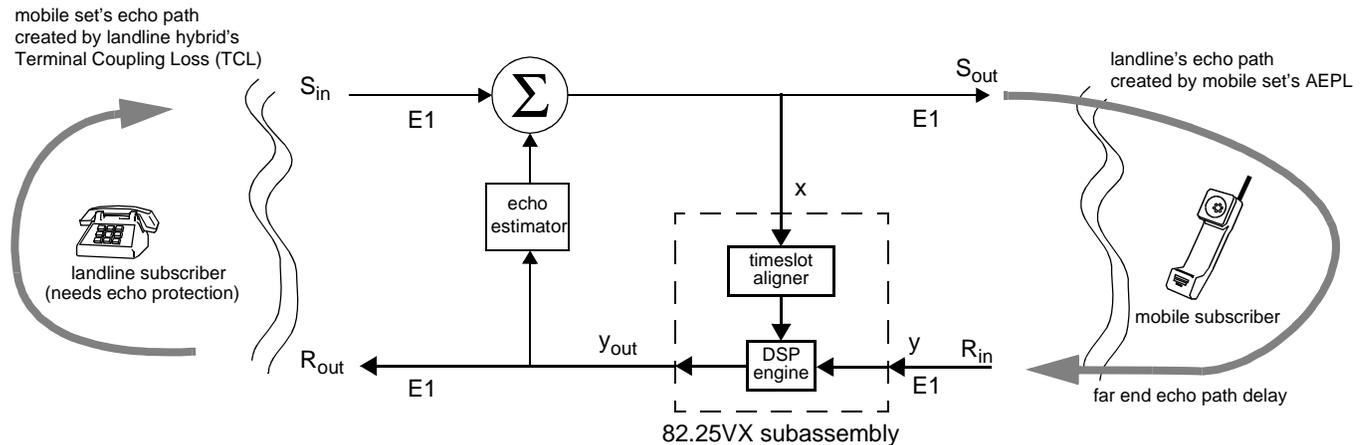

Figure 2-2 ACE and its relation to echo canceller orientation
- 2.4 Acoustic coupling, combined with a low Acoustic Echo Path Loss (AEPL) at the cellular telephone, can create echo. ACE eliminates echo caused by a mobile set's acoustic coupling and improves perceived audio quality for the landline subscriber. Figure 2-2 provides an illustration of ACE and its relation to echo canceller orientation.